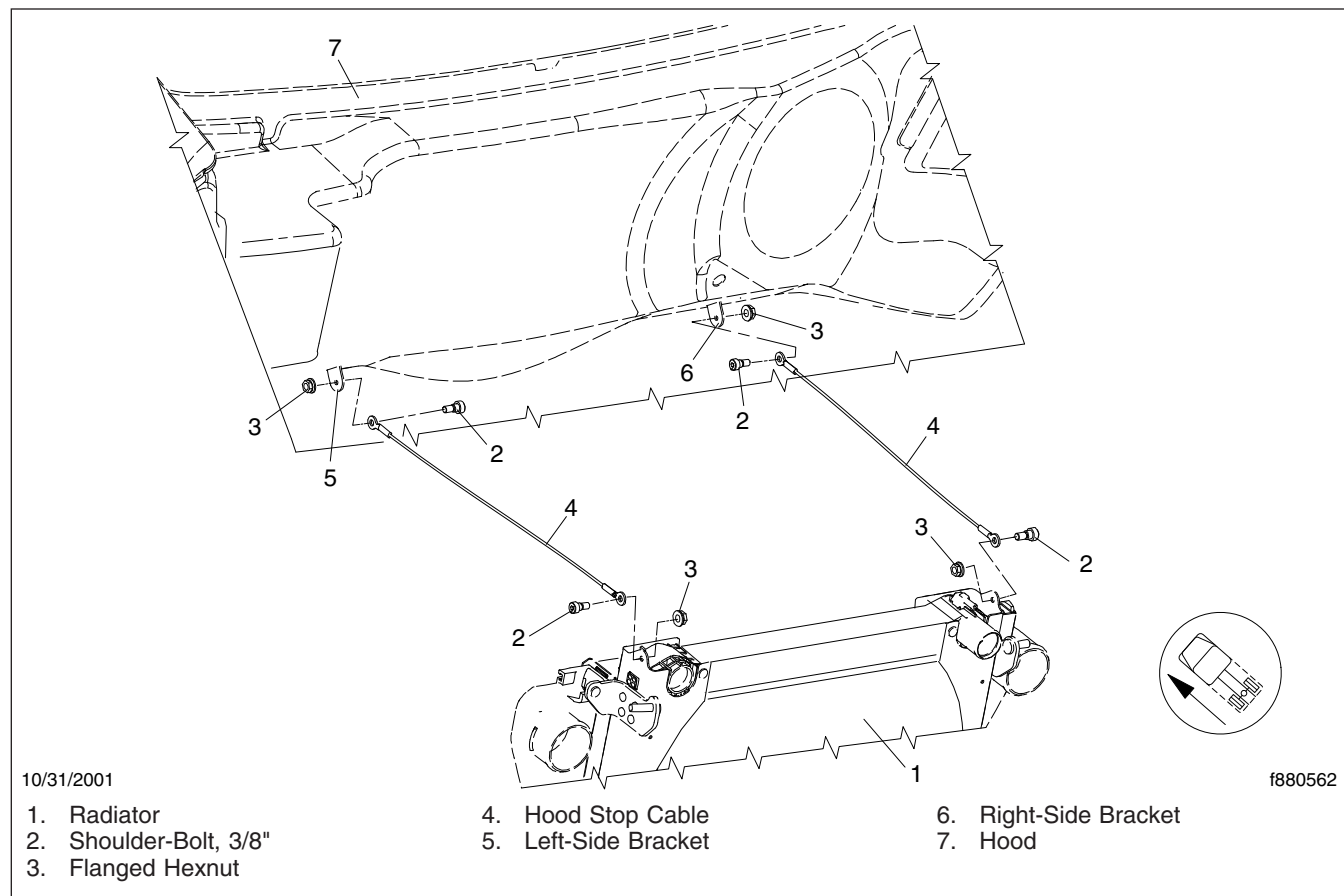
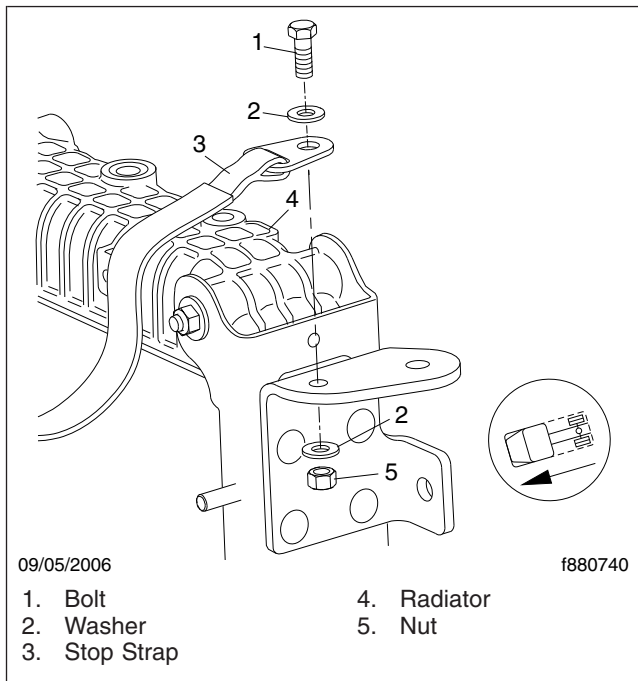

Fig. 4, Hood Stop Cables
Fig. 9, Hood Stop Strap Installation
9. Disconnect the stop cables from the brackets on the radiator; see Fig. 4.
4. Connect the stop-cable assemblies to the brackets on top of the radiator. Tighten the flanged hexnuts firmly; see Fig. 4.
8. Disconnect the stop cables (Fig. 4), or stop straps (Fig. 9), from the brackets on the radiator.
4. Connect the stop cables (Fig. 4) or stop straps (Fig. 9) to the brackets on top of the radiator. Tighten the fasteners firmly.